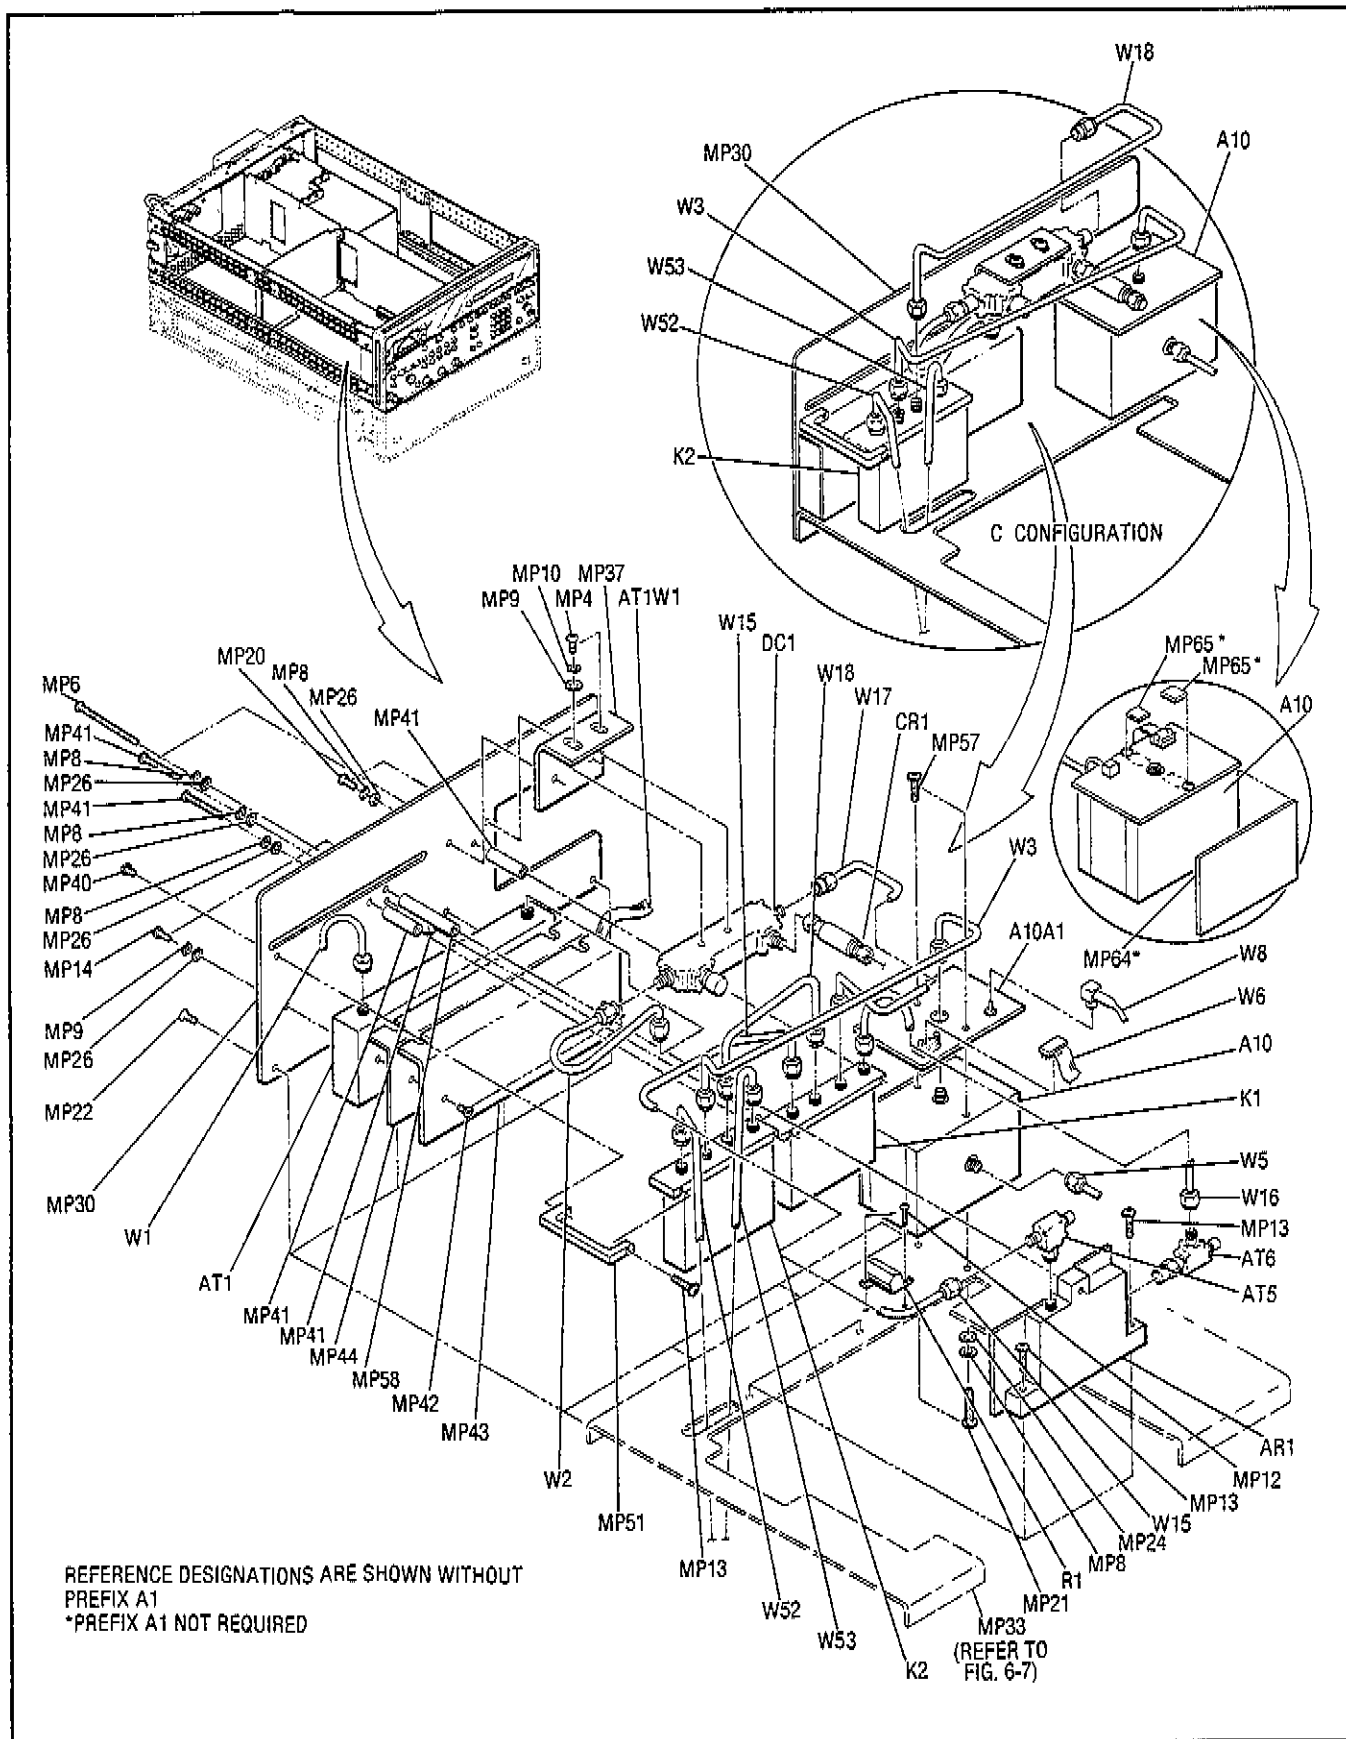

Figure 8-304. A1 RF Output Assembly — YTM Relays and Attenuator
- d. Refer to Figure 8-304 for the following steps.
c. Refer to Figure 8-304 for the following steps.
d. Refer to Figure 8-304 for the following steps.